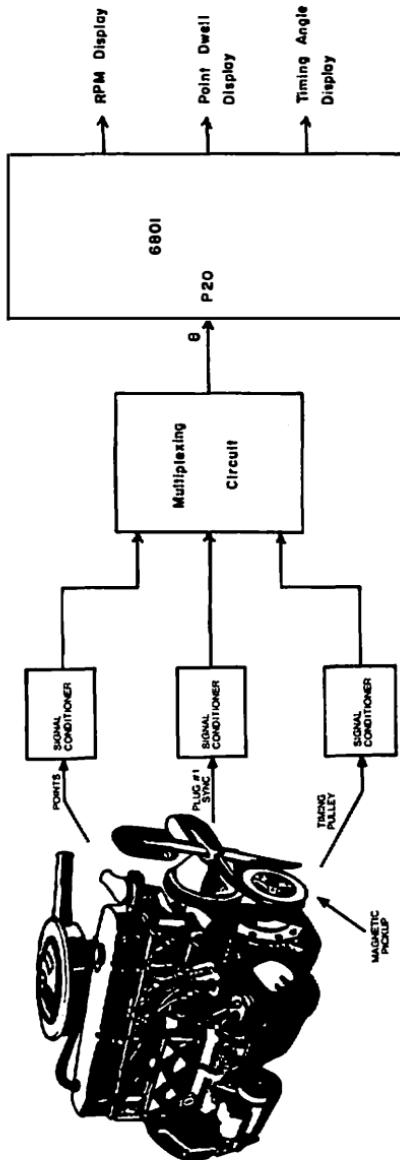
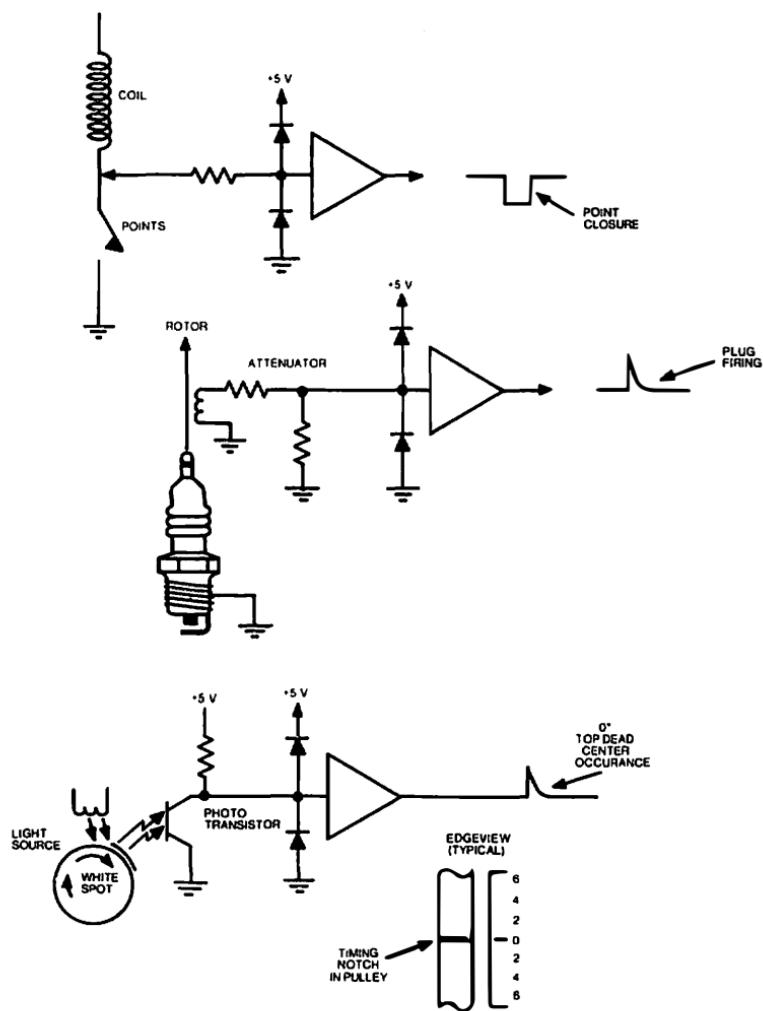

Fig. 9-5. Automobile engine signal requirements.
Fig. 9-8. Automobile engine signal detection and conditioning.
The engine signal requirements, measurements, and calculations are summarized in Figs. 9-5 and 9-6. Note that the point signal is used to calculate both the rpm and dwell angle. This signal can be applied to the 6801 timer input at P20 (pin 8). The internal 6801 timer can then be used to measure point closure duration (A) and period (B) for the rpm and point dwell calculations. However, to measure the timing angle three signals must be monitored simultaneously; the point signal, plug No. 1 firing, and 0° TDC signal. The point signal is needed to determine the point closure period (B), with the plug No. 1 firing and 0° TDC signals needed to determine the timing duration (C). Both values (B and C) are required by the timing angle equation. Since the 6801 has only one timer and thus one timer input, the signals required for the timing angle measurement must be multiplexed into the timer. We will therefore discuss the rpm and dwell angle measurements first, and then discuss the timing angle measurement separately.
As indicated in Fig. 9-5, each engine signal must be properly converted to a TTL compatible level before it can be used by the 6801. Therefore, each signal will be coupled to the 6801 via a *signal conditioner*. The output of the signal conditioner must be a clean TTL compatible signal containing no spikes or "glitches" that could cause false triggering. Care must also be taken to ensure that the engine's electrical system is not loaded, resulting in reduced engine performance. Therefore, the signal conditioners must represent a very high impedance load to the engine electrical system. Detection and conditioning of each of the required signals is shown in Fig. 9-8. The point closure signal may be dc coupled from the point/coil connection into a high impedance signal conditioner, since a low impedance input on the signal conditioner could degrade the per-
Finally, the 0° top dead center (TDC) signal can be detected magnetically or optically. The optical method is shown in Fig. 9-8. The timing pulley notch can be marked with a white reflective paint to indicate when piston No. 1 is at the 0° TDC position. A light source shining on the reflective white paint at 0° TDC can then be detected by a photo transistor as the paint spot passes under the light source. The photo transistor can drive a 7414 Schmitt trigger to provide the proper TTL signal to the 6801.